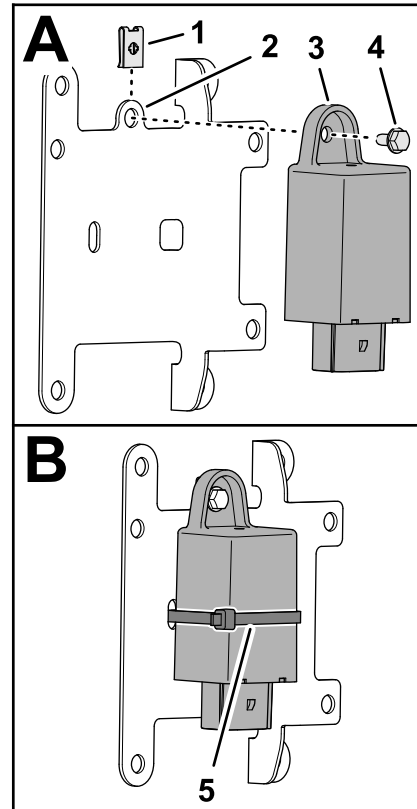

Figure 23
1. Assemble the clip nut (#10) onto the fuse mount plate (Figure 23).
2. Assemble the flasher to the mount plate (Figure 23) with a flange head screw (#10 x 3/8 inch).
3. Secure the flasher to the mount plate with a cable tie (Figure 23).